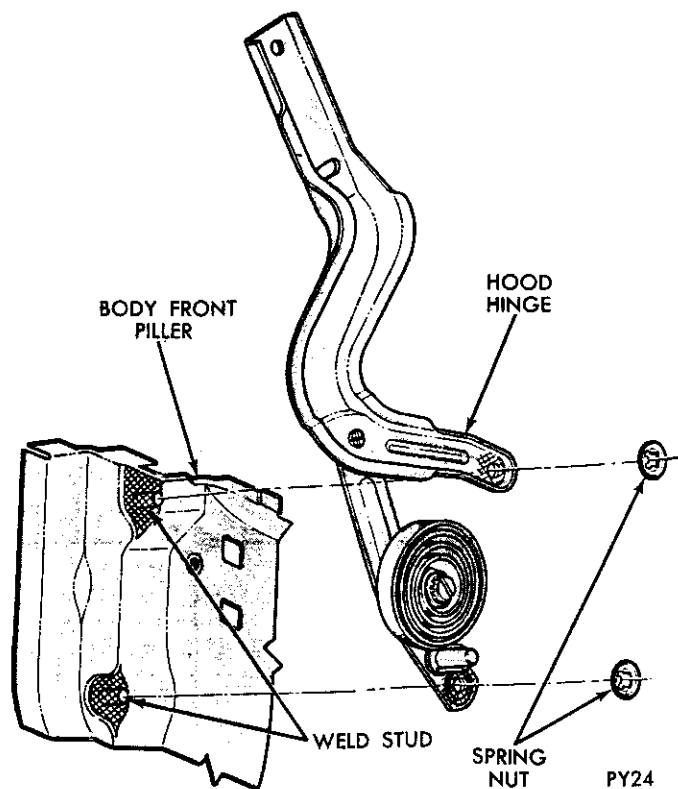

Fig. 2—Hood Adjustment
(1) Place a protective covering over cowl and fender area.
(2) Mark outline of hinges on hood to aid in installation.
(3) With an assistant, remove hinge-to-hood bolts (Fig. 2) and remove hood assembly. Use care not to permit hood to slide rearward and damage painted surfaces of the cowl and fender areas.
- (1) Scribe hinge location on hood and remove hinge to hood screws.
- (2) Support hood at hinge area.
- (3) Remove spring nuts from hinge studs (Fig. 2) and remove hinge.
- (4) Lubricate hinge stud areas with lubriplate and position hinge on studs.
- (5) Using a socket with putty placed on end, position a new spring nut on putty and position on stud. Press spring nuts on studs using a screw driver.
- (6) Remove hood support and position hinge on hood.
- (7) Install hinge to hood screws align hood and tighten.